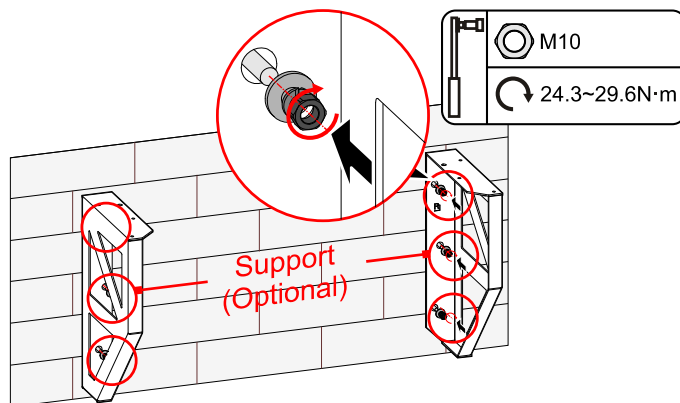

Figure3-15 Mark the installation holes
4. Fix the assembled base by expansion bolt M10, as shown in Figure3-15.